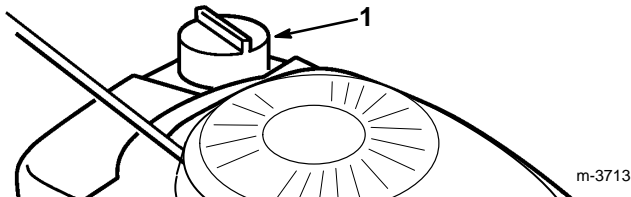

Figure 5
1. Clean around the fuel cap and remove the cap from the tank (Fig. 5).